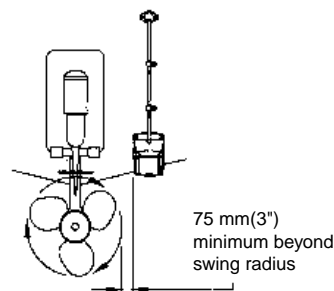

Figure 2. Mounting location on single drive boat
- **Single drive boat**—Mount on the starboard side at least 75mm (3") beyond the swing radius of the propeller (see Figure 2).